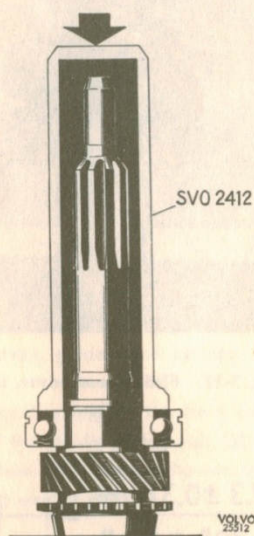

Fig. 3-30. Fitting ball bearing on input shaft
4. Press the bearing (64) onto the input shaft with the help of drift SVO 2412 see Fig. 3-30. Select a locking ring of suitable thickness and fit it. Place the 14 bearing rollers for the mainshaft in position on the input shaft. Use grease to keep the rollers in position. Press the input shaft into position in the housing. Press the sealing ring (66) into the cover (67) with drift SVO 2010. Then fit the cover over the input shaft.
6. Turn the transmission upside down. Fit the countershaft (2) from the rear. Hold locating tool SVO 2303 with the hand. Ensure that the thrust washers do not fall down.